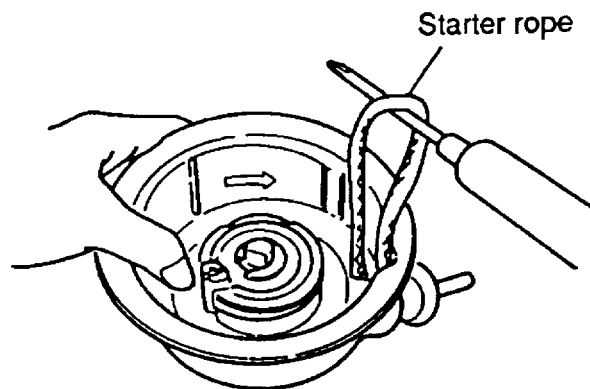

Figure 6-29 Recoil starter rope
- 2) Pull out the grip and draw out the starter rope for approx. 30 cm. When the reel's notch came at the outlet of the starter rope, fasten the reel's turning by your thumb and draw up the starter rope inside the recoil starter using a screwdriver as shown in Figure 6-29. Then, wind back the rope until the reel stops to turn by turning the reel with your thumb at the reel's notch.